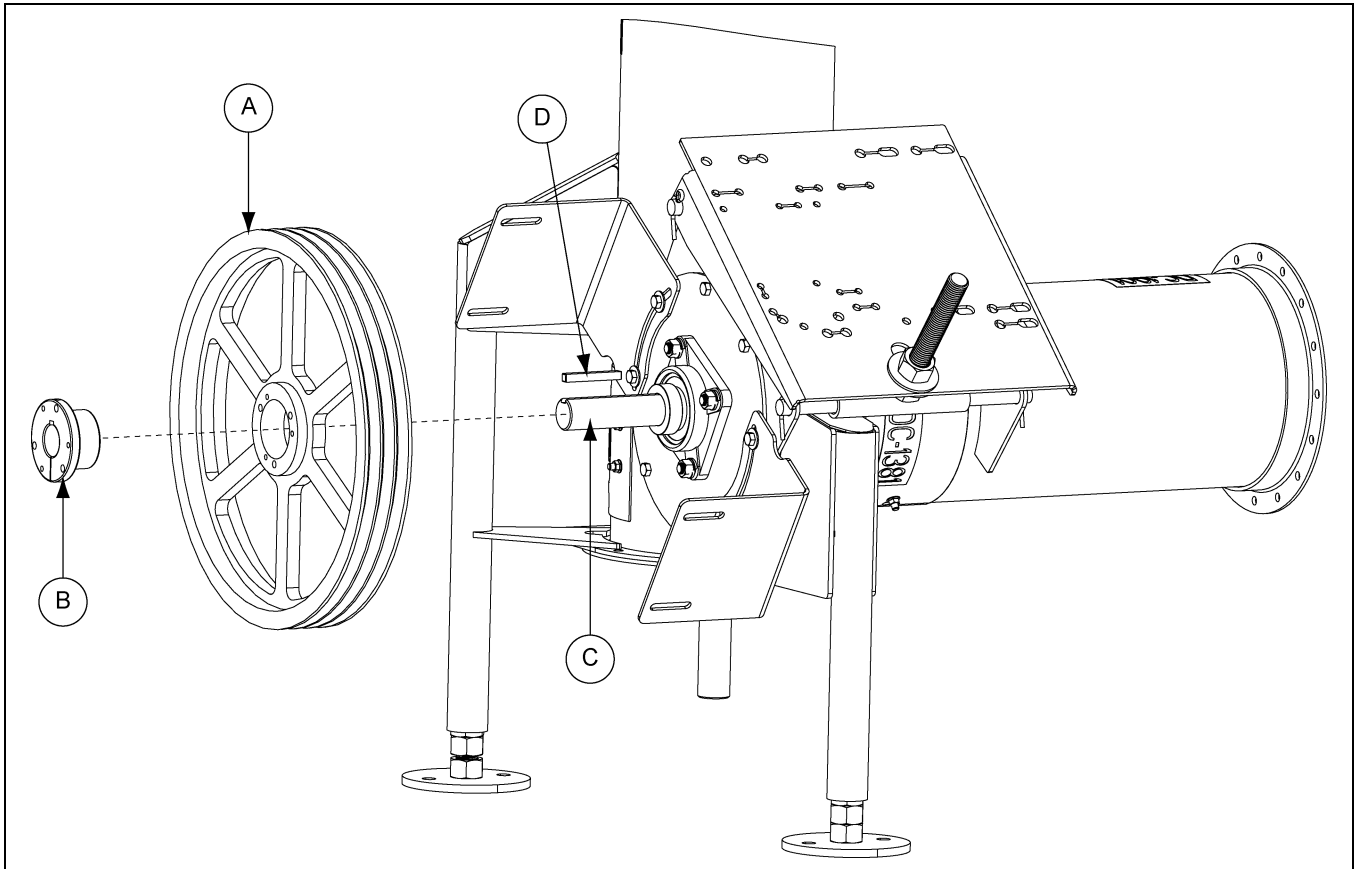

Figure 3N
- A. Place and position the *key (D)* into the keyway located on the *drive shaft (C)*.
- B. If applicable, assemble the supplied *sheave bushing (B)* to the *flight pulley (A)*. Place the *flight pulley (A)* onto the *drive shaft (C)* with the set screw side of the *flight pulley (A)* facing away from the bearing plate. Position the *flight pulley (A)* close to the lock collar, but ensure it is not in contact.
- C. Once the *pulley* is appropriately positioned, tighten the set screw with a hex head wrench to secure it to the *drive shaft (C)*. (See Figure 3N below and Figure 3O on Page 24.)